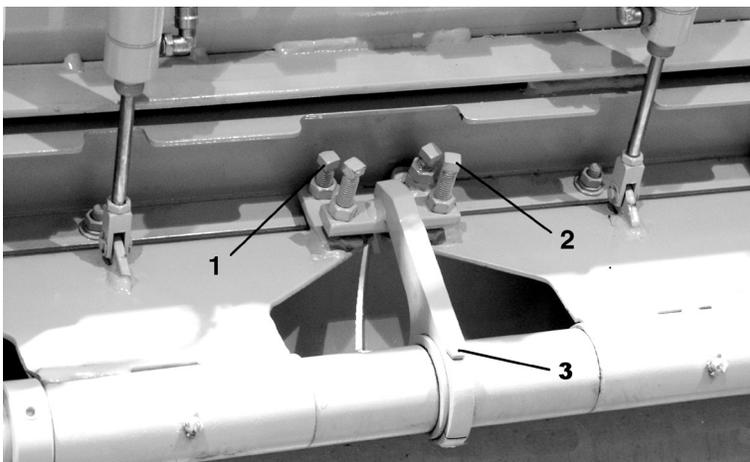

Figure 4
- a. Back off hydraulic gate arm adjustment screws between all hydraulic gate buss arms and air gates. (See figure 4)
- b. Adjust air gate adjustment screws (see figure 4) to achieve a uniform gap of 1/16" across the spreadroll. Insure that there is air pressure applied to the gate forcing it closed during this adjustment.
- c. Check all buss arm asm bolts to make sure that they are tight, (see figure 4) replace any bent or broken bolts.
- e. With machine running and hydraulic pressure applied to hydraulic gate buss arm, turn air gate master power (ON) turn all individual air gate switches (ON) and allow air gates to open to hydraulic gate buss arm.